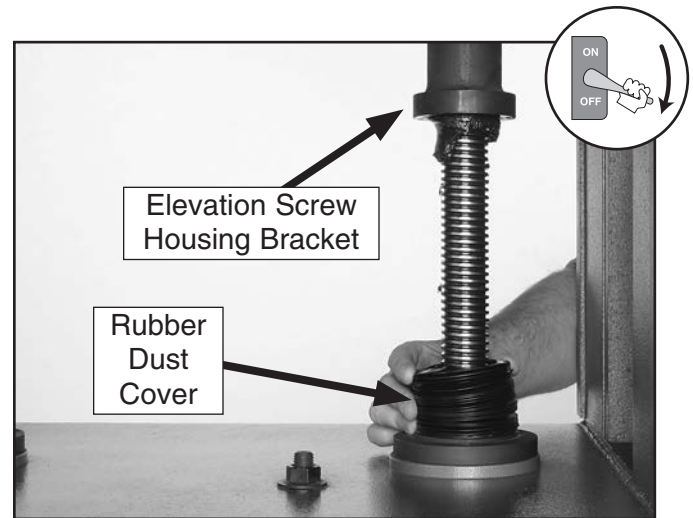

Figure 29. Table elevation screw covers pulled down for lubrication.
3. Remove the two screws securing the top of the rubber dust covers (see **Figure 29**).